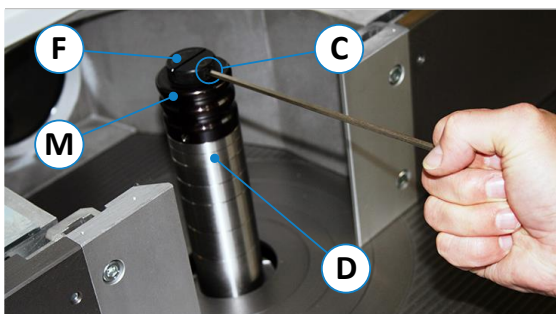

Figure 15: Milling arbor with quick clamping device
- Now turn the spindle by hand so that the clamping screw (C) is accessible (see ⇒ Figure 15).
- Press one of the two emergency stop buttons (4) and leave it locked.